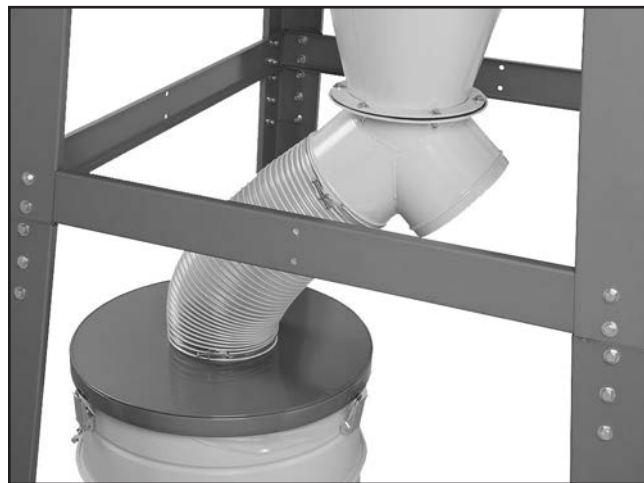

Figure 44. Dust collection drum assemblies connected to funnel port.
50. Connect the dust collection drum assemblies to the funnel port with the 9" flexible ducts and 9" duct clamps (see **Figure 44**).